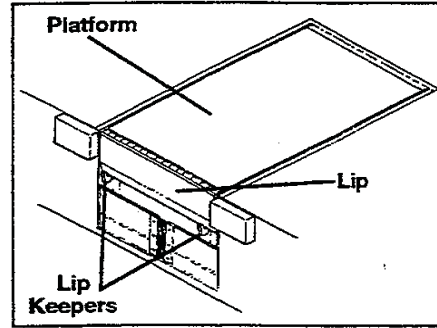

Figure 5
11. Use a fork lift (or other method) to raise the leveler platform. Remove the maintenance prop. Set the platform in the cross traffic position (lip fully folded, inside the keepers, and the platform level with the dock floor). See Figure 5.